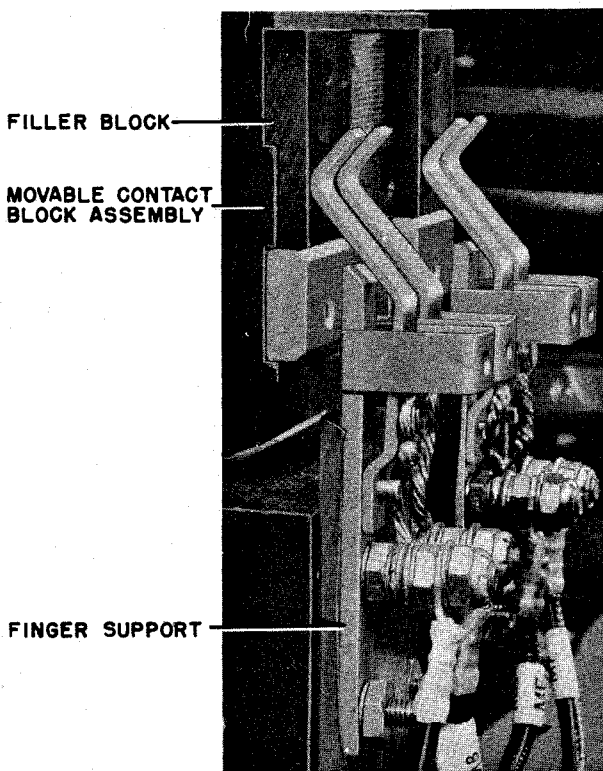

Fig. 6 - Interlock Assembly
- f. Copper interlock finger and bar assemblies having a movable contact block assembly, Fig. 6, that is equipped with **FILLER BLOCKS SHOULD NOT HAVE THE FINGERS AND BARS LUBRICATED**. When the movable contact block assembly of a copper finger and bar interlock assembly is not equipped with filler blocks, lubrication should be used. The fingers and bars should have a thin coat of contact surface grease (8196885 - 1 lb. can) applied to their surfaces. The method of application is to work some grease in a clean bound rag wiping the rag over the copper surfaces (petroleum jelly should not be used). The grease should not be apparent by visual inspection. Too much